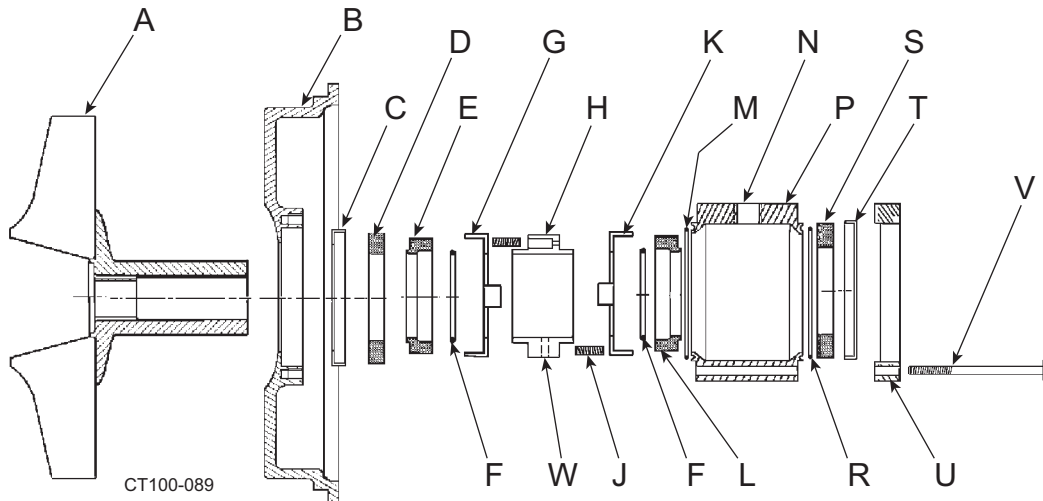

Figure 36 - Type 4 Seal Components
The Type 4 Seal is essentially two Type 1 seals assembled back to back in a chamber which bolts to the backplate in place of the stationary seat retainer. Except for the additional components (chamber, seals), Type 1 and Type 4 components are interchangeable (Figure 36).
9. Place the impeller assembly **face down** (on impeller vanes) and remove the hex head screws (Figure 36, item V) from the back of the seal assembly.
10. Carefully lift off the seat retainer, O-ring, L-gasket, stationary seal, and flush housing (Figure 36, items P, R, T, S and U).
11. Loosen (2) setscrews in the spring retainer (Figure 36, items W and H).